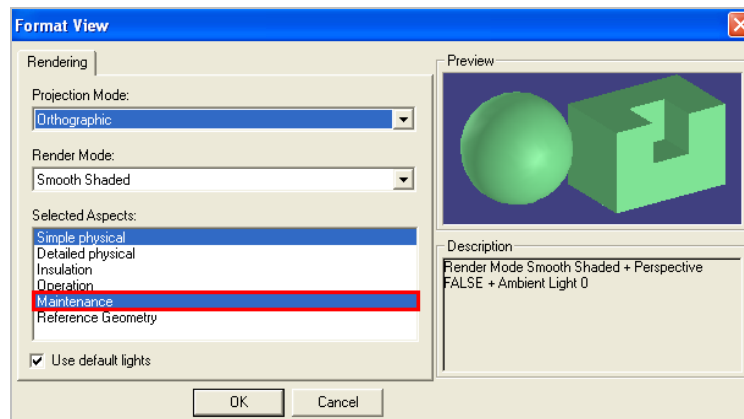

Figure 31: The Maintenance Aspect Selected
28. Turn the **Maintenance Aspect** on in the **Format View** dialog box and click **OK**, as shown in Figure 31.